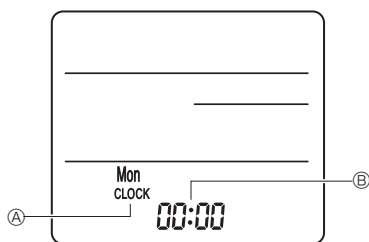

Fig. 7-8
3) Setting (Clock setting) (Fig. 7-8)